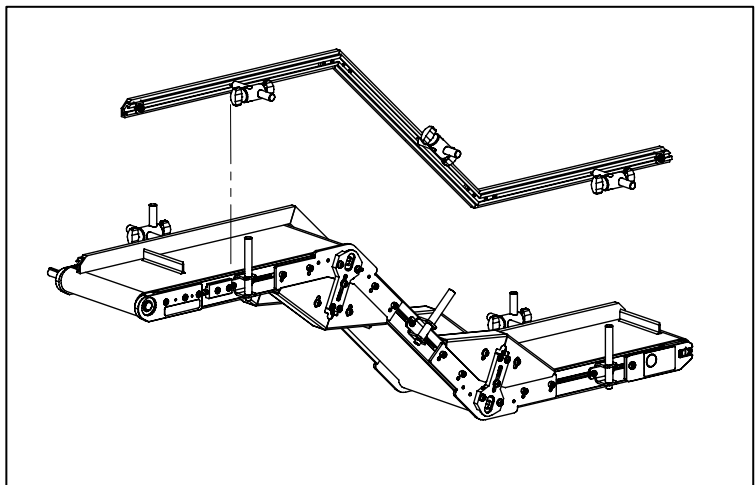

Figure 1
❶ Remove Guide Rail from Guide Brackets
a. Loosen all the guide rail/rod/cross block assemblies, along one side of the conveyor, from the vertical rods connected to the guide brackets, and slide them off vertically (**Figure 1**).